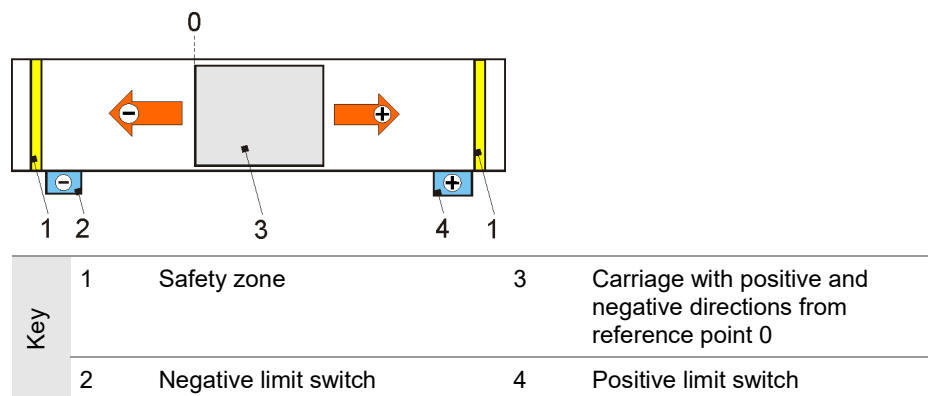

Figure 6: Example of travel direction and limit switch configuration
2. Check the direction of rotation of the motor. It must take into account the safety limit switches (Figure 6). Alter the direction of the motor as necessary.